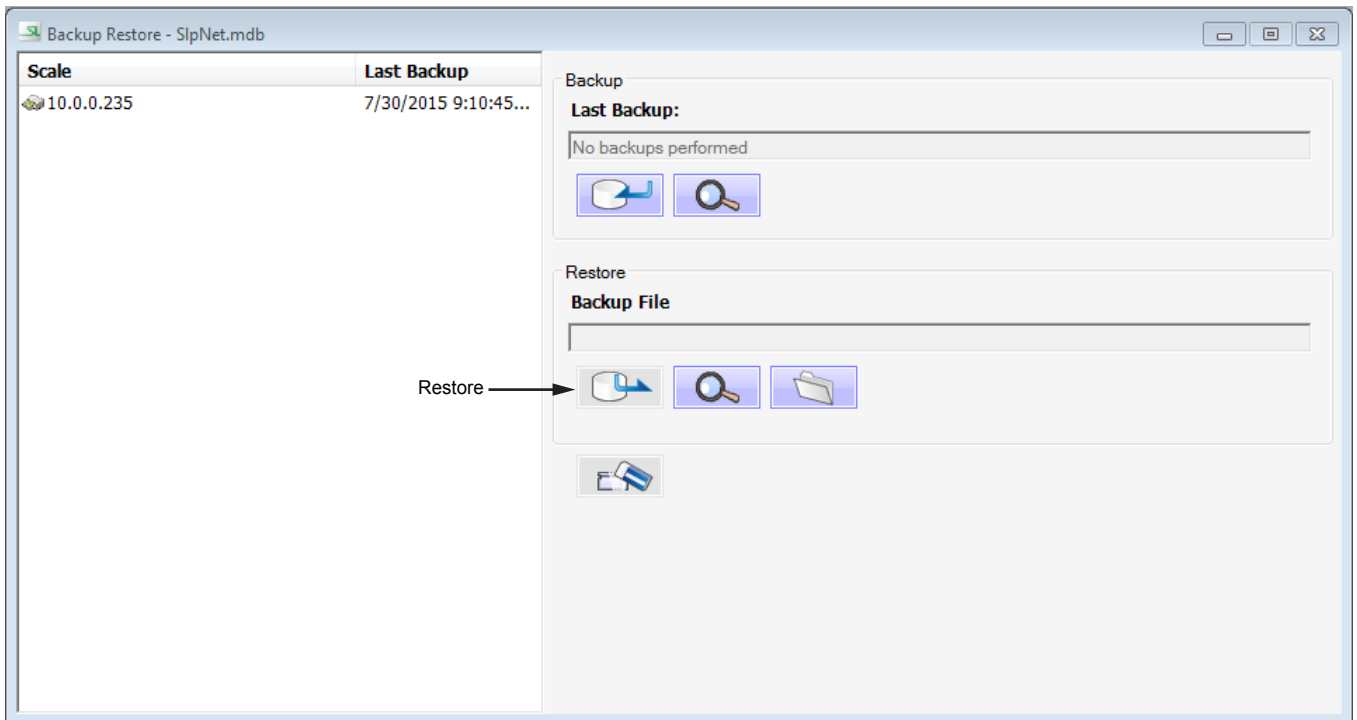

Figure 49-1
5. Click the Restore button. The Restore Scale Data window opens to specify which data to copy back to the scale. Unsupported data types are grayed out. See Figure 49-1.